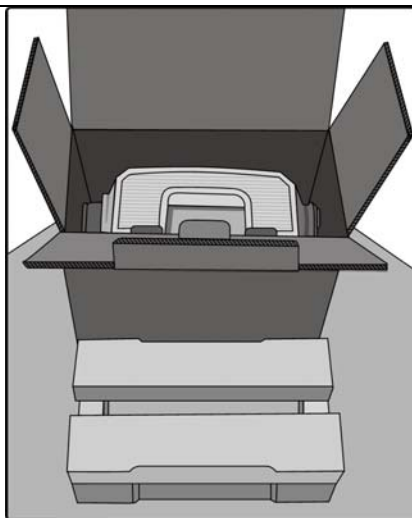

Figure 187: Unpacking the Battery
5. Open the power pack package, remove the foam protecting the extended battery, and take out the extended battery, as shown in Figure 187.